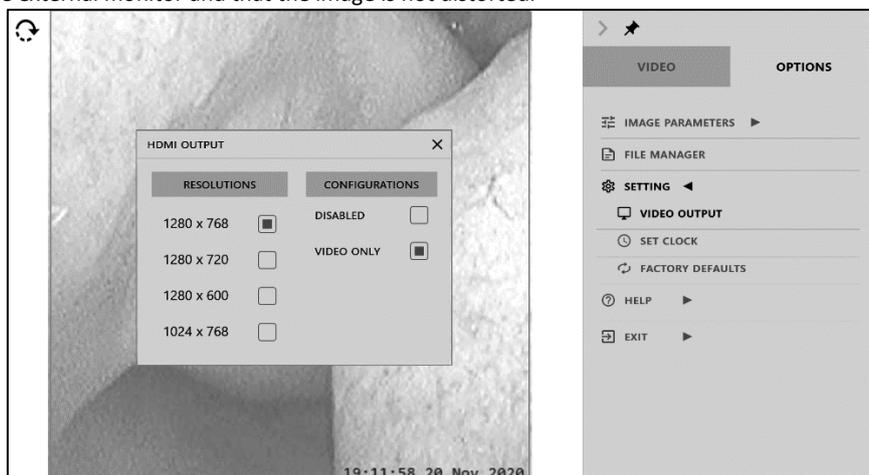

Figure 12 - Video Output Screen
4. To output the video stream to an external monitor, connect the provided HDMI cable, with the Ferrite Bead side (Table 1) to the Console HDMI isolated output port and follow the instructions in Figure 12.
- 4.1. VIDEO OUTPUT window allows the user to configure external monitor settings (Figure 12). Verify the displayed test pattern fully appears on the external monitor and that the image is not distorted.